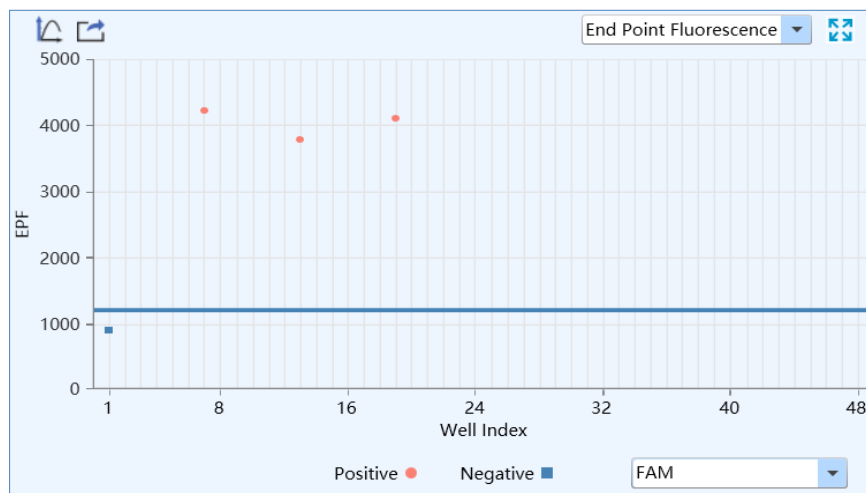

Figure D-18.1. End Point Fluorescence Analysis Interface - End Point Fluorescence Scatter Plot
I. **End Point Fluorescence Scatter Plot:** display the scatter plot of fluorescence intensities measured at end the point of amplification plateau phase, as shown in figure D-18.1.